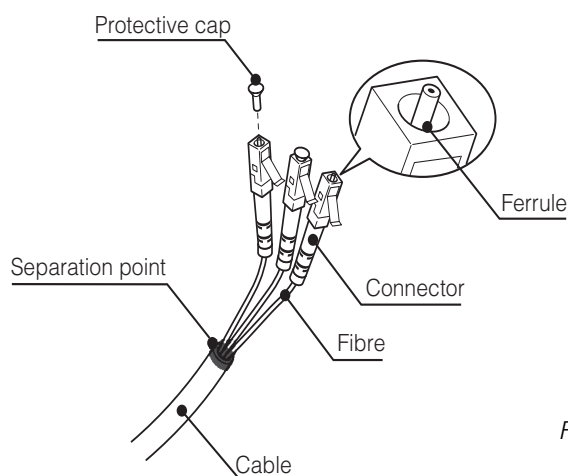

Fig.7
- The individual optical cables are delicate: always handle the main cable without touching the individual optical cables (Fig. 7).